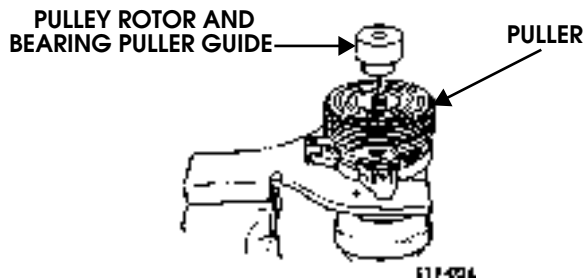

Figure 11-31: Pulley Rotor and Bearing Puller Guide
3. Install pulley rotor and bearing puller guide on the compressor, and install pulley rotor and bearing puller down into the inner circle of slots in the rotor. Turn the puller clockwise in the slots in the rotor (Figures 11-31 and 11-32).